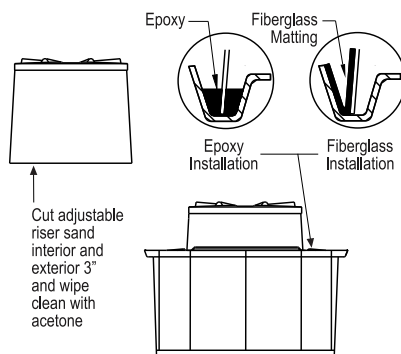

FIGURE 9
D. If using a fiberglass kit, apply three layers of fiberglass mat (1 layer at the time) per the labeled instructions. Allow to harden (Figure 9).